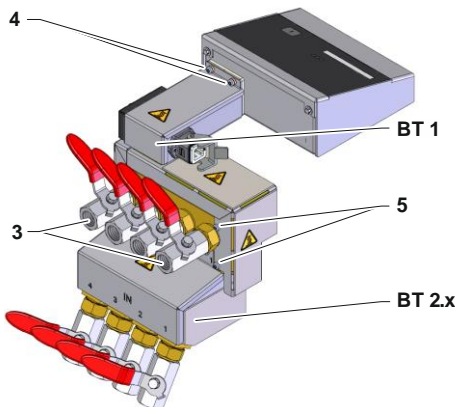

Fig. 8: Flow-5 with ball valve
- Attach insulation and cover plate, mount screws (Label 5 → Fig. 8).
- Attach insulation and cover plate, mount screws (Label 4 → Fig. 8).
- If present install shut-off valve OUT 1 and 4 (Label 3 → Fig. 8).